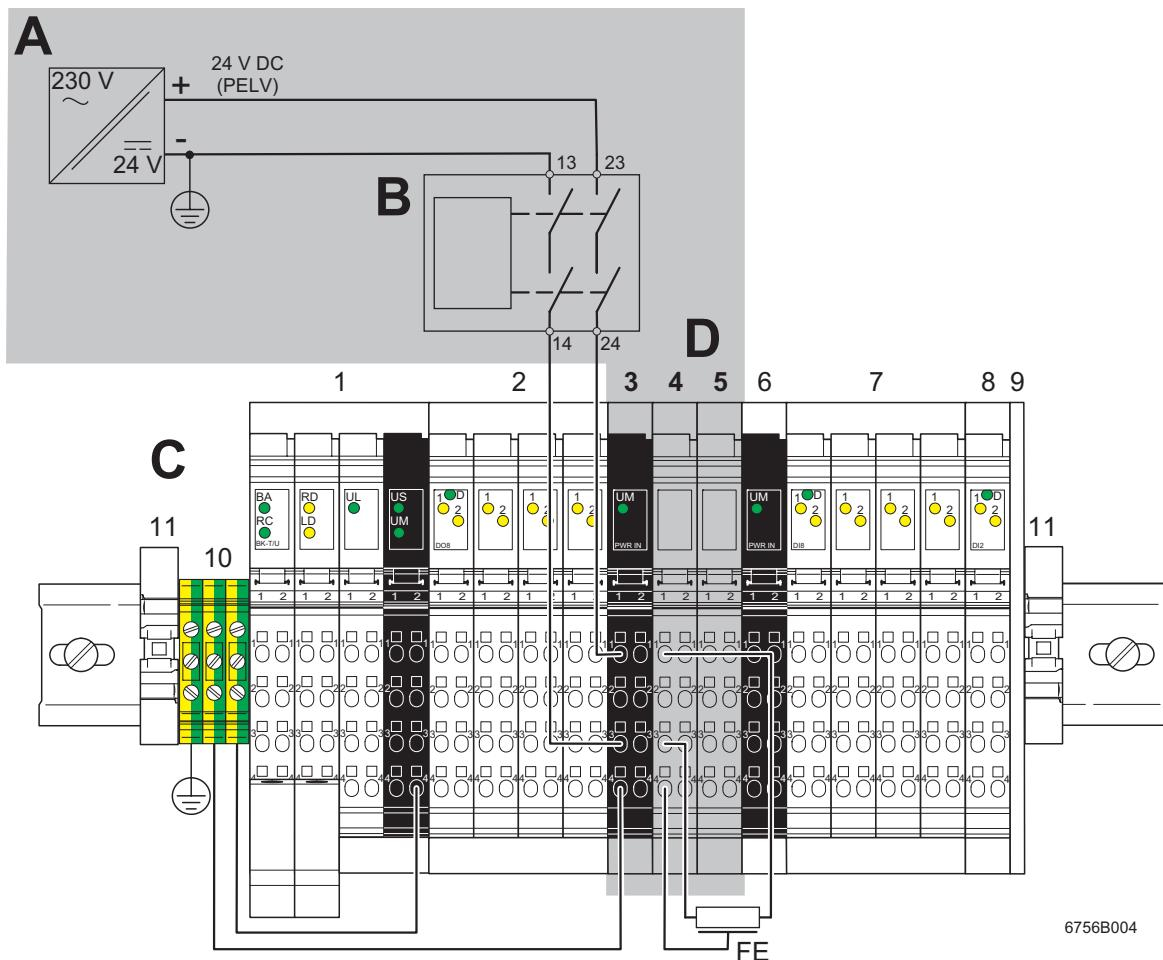

Figure 4 Typical connection of the supply voltage
- Connect the power terminal for the safe segment circuit with PE using a grounding terminal (see Figure 4 on page 8).
Key to Figure 4: